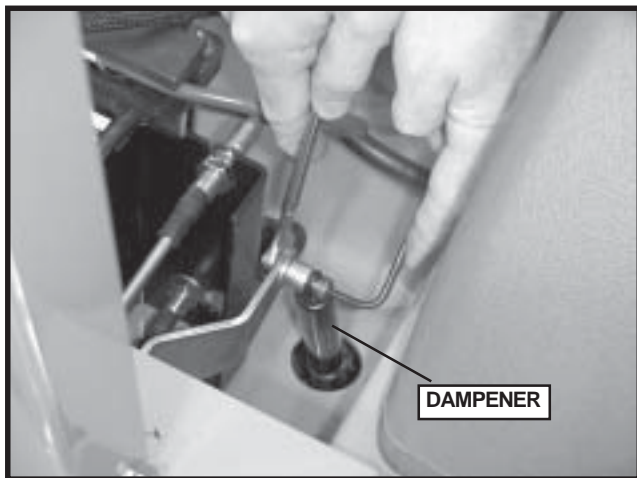

FIGURE 4
1. Using a 7/16" open end wrench and a 5/32" hex allen wrench, remove the hardware fastening the dampener on the top side. Repeat on other side. See Figure 4.